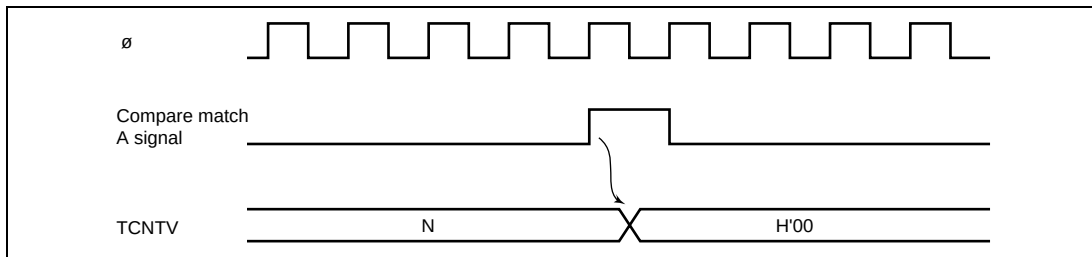

Figure 10-7 Clear Timing by Compare Match
5. When CCLR1 or CCLR0 in TCRV0 is 01 or 10, TCNTV can be cleared by the corresponding compare match. Figure 10-7 shows the timing.